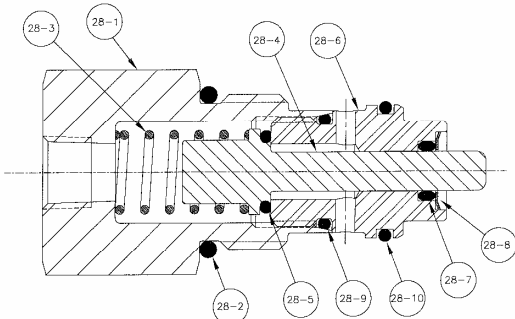

FIGURE 6: SECTION D-D
- 9.5 Pilot Valve (28) assemblies. Refer to Figure 6.
For breakdown of item 28, see Figure 6